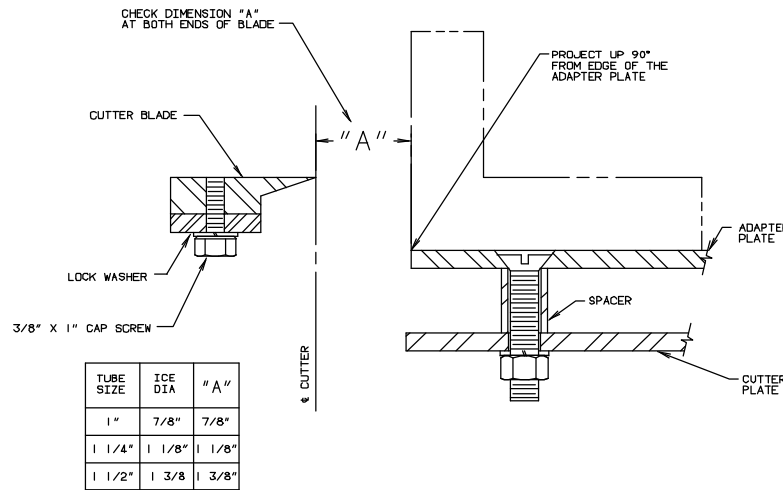

Figure 9-6
4. Refer to FIGURE 9-6, adjust each blade to dimension "A" and lock the blade in position by tightening the 3/8" cap screws. Note: Use a 90° square (as illustrated) to obtain the proper blade clearance required for satisfactory ice discharge. Dimension "A" is critical and should be measured at both ends of the blade. Note: 3/8" x 1" cap screw must be flush with cutter blade.